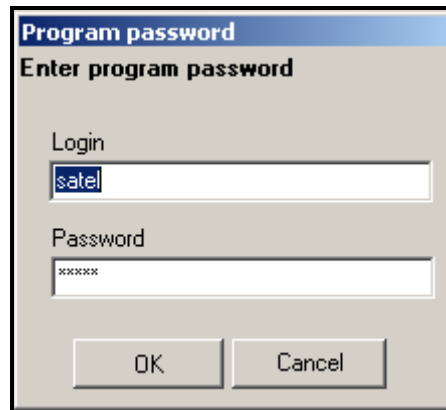

Fig. 18. Password entry window on the first start of the program.
2. Start the ACCO-SOFT-LT program. Access to the program is protected by a password. When running the program for the first time, you will get access on the basis of default password, which is already entered. The default password can be read then (see Fig. 18). **It is recommended that the password of access to the program be changed after the first start.** In order to do so, open the main menu of the program, enter the FILE menu